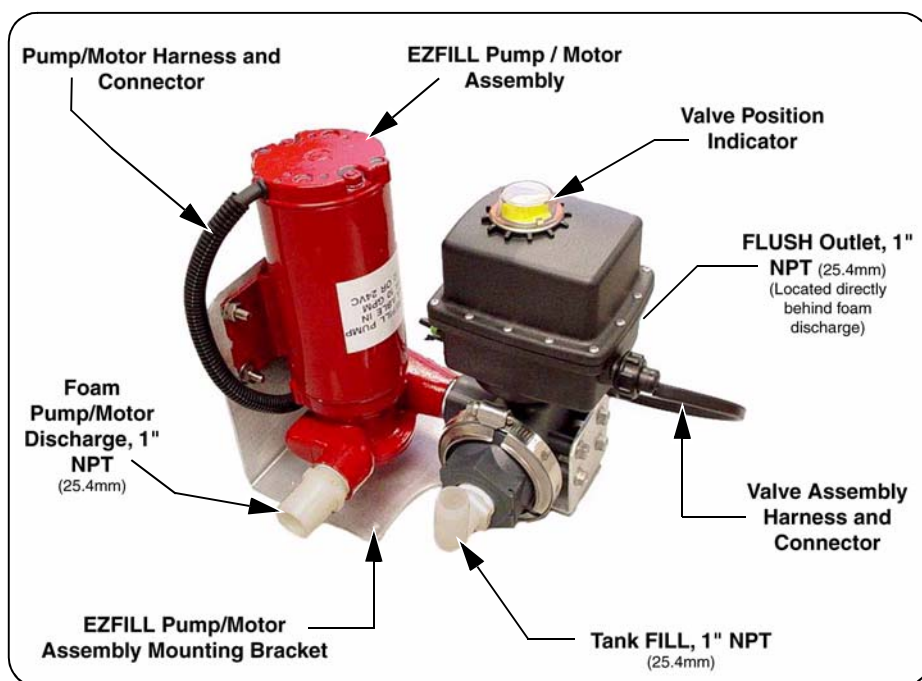

Figure 3-1: Three-Position Valve Plumbing, Single Tank
(See Figure 3-1: 'Three-Position Valve Plumbing, Single Tank.')
4. Install the SUCTION/FILL quick disconnect adapter and hardware. The adapter should be located in a convenient location on the operator's panel. (See Figure 3-1: 'Three-Position Valve Plumbing, Single Tank' on page 11.)
7. Foam FILL hose connection between 3-position valve port and the BOTTOM of the foam tank (Tank "A"). (See Figure 3-1: 'Three-Position Valve Plumbing, Single Tank' on page 11.) The foam tank fill hose must be plumbed to the bottom of the tank to prevent "foaming" of the concentrate.
8. Flush discharge hose between the 3-position valve FLUSH port and appropriate ground container (5 gallon/19 liter pail). (See Figure 3-1: ‘Three-Position Valve Plumbing, Single Tank’ on page 11.)
Refer to Figure 3-1: “Three-Position Valve Plumbing, Single Tank” for the suggested panel installation and cutout dimensions.